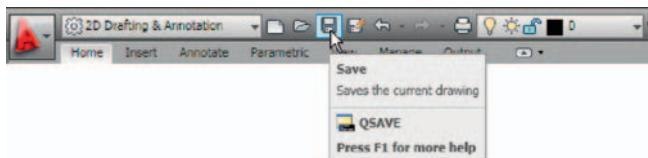

Fig. 1.28 Click Save
6. *Click the Save icon in the Quick Access toolbar* (Fig. 1.28). The **Save Drawing As** dialog appears. In the **Files of type** popup list select **AutoCAD Drawing Template (\*.dwt)**. The templates already in AutoCAD are displayed in the dialog. *Click on acadiso.dwt*, followed by another *click* on the **Save** button.